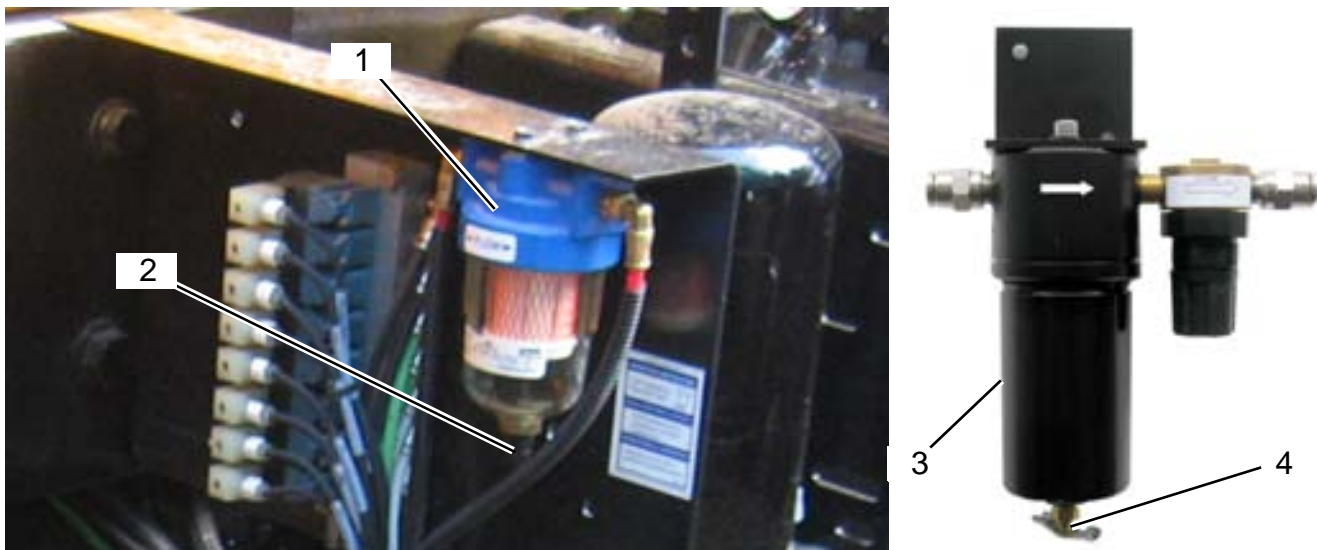

Figure 26
- Drain the standard coalescing filter (**Figure 26, 1**) for the Packer air system.
- Locate the drain fitting (**Figure 26, 2**) on the bottom of the coalescing filter. Drain the filter by turning the drain fitting counterclockwise.
- Drain the water separator (**Figure 26, 3**) installed for the AutoReach Soft-Stop System.
- Locate the drain fitting (**Figure 26, 4**) on the bottom of the coalescing filter. Drain the filter by turning the drain fitting counterclockwise.